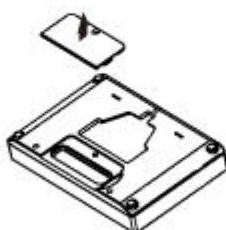

Fig. 2
2. Open the lid of the battery compartment on the remote control. Note the opening direction (as shown in Fig. 2). Insert 3 AA Alkaline batteries (Fig. 3), and then close and screw the lid of the battery compartment. (Fig. 4)